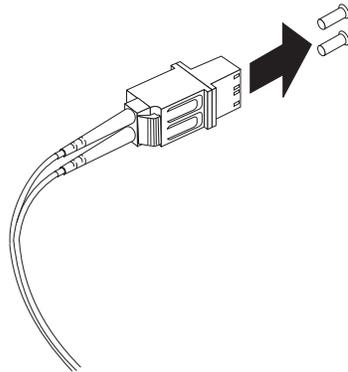

Figure 30. Removing the LC-SC cable adapter protective caps
3. Remove the two protective caps from the LC connector end of the LC-SC cable adapter as shown in Figure 30. Save the protective caps for future use.